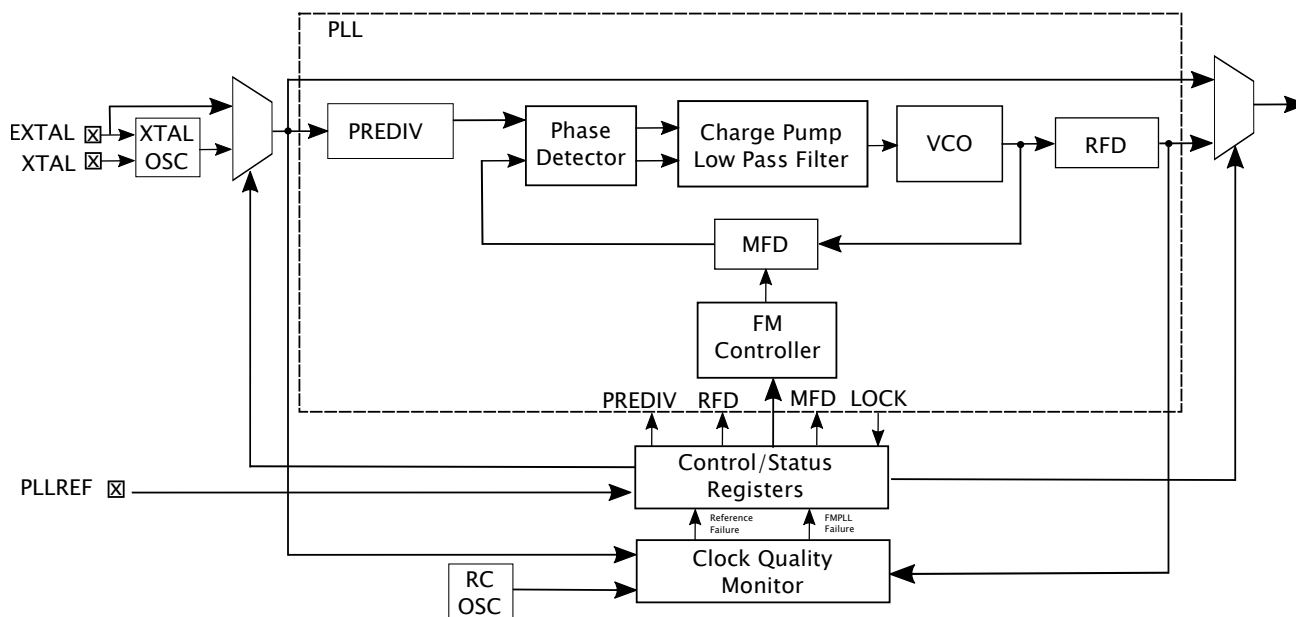

Figure 1. FMPLL Block Diagram
The FMPLL allows the users to generate high-speed system clocks from a crystal oscillator or from an external clock generator and supports programmable frequency modulation (FM) of the system clock. The programmable registers control the FMPLL multiplication factor (MFD), reference clock predivider factor (PREDIV), output clock divider ratio (RFD), modulation depth, and multiplication rate. See Figure 1 below.
For the MPC564xA and MPC563xM families, you can run in legacy or enhanced mode. These procedures apply to enhanced mode. The 'E' prefix on the divider names, EPREDIV, EMFD, etc., indicates enhanced mode dividers. These dividers perform the same functions as the corresponding non 'E' prefixed dividers in Figure 1.